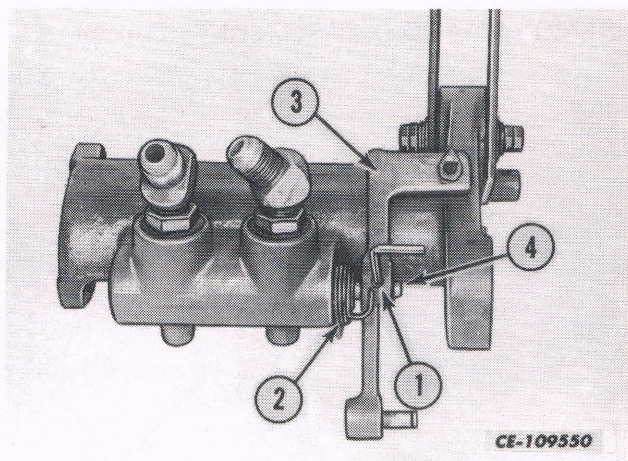

Fig. 18
g. Remove the allen set screw (1) securing the flow control arm assembly (3) to the spool (4) with return spring (2). See Fig. 18.